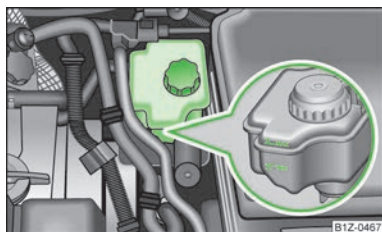

Fig. 136
- > Check the level of brake fluid in the reservoir » Fig. 136. The level must be between the "MIN" and "MAX" markings.